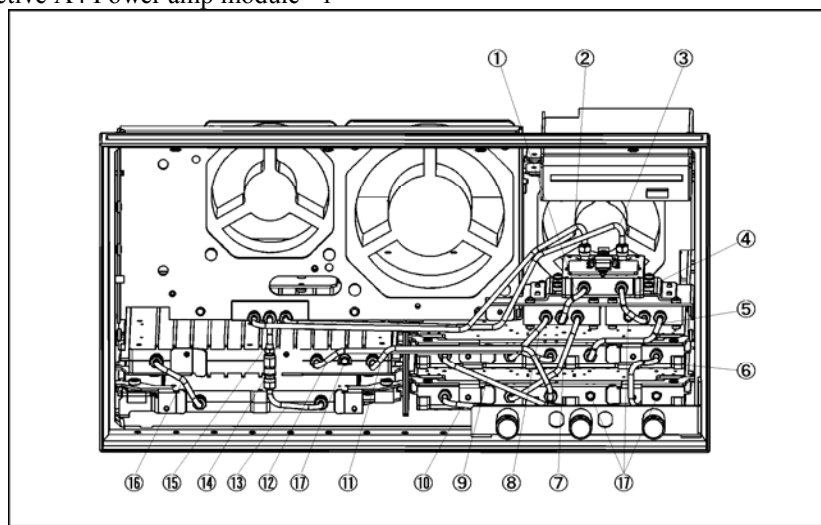

Figure 7 Front View (Semi-rigid Cables Opt. 313 before modification)
5. Remove E5070-61685 (No 1 and No 4 in Figure 7) semi-rigid cables from A4 and A8 (receiver side)
6. Remove E5070-61677 (No 2 in Figure 7) and E5070-61678 (No 3 in Figure 7) semi-rigid cables from A4 and A8 (source side)